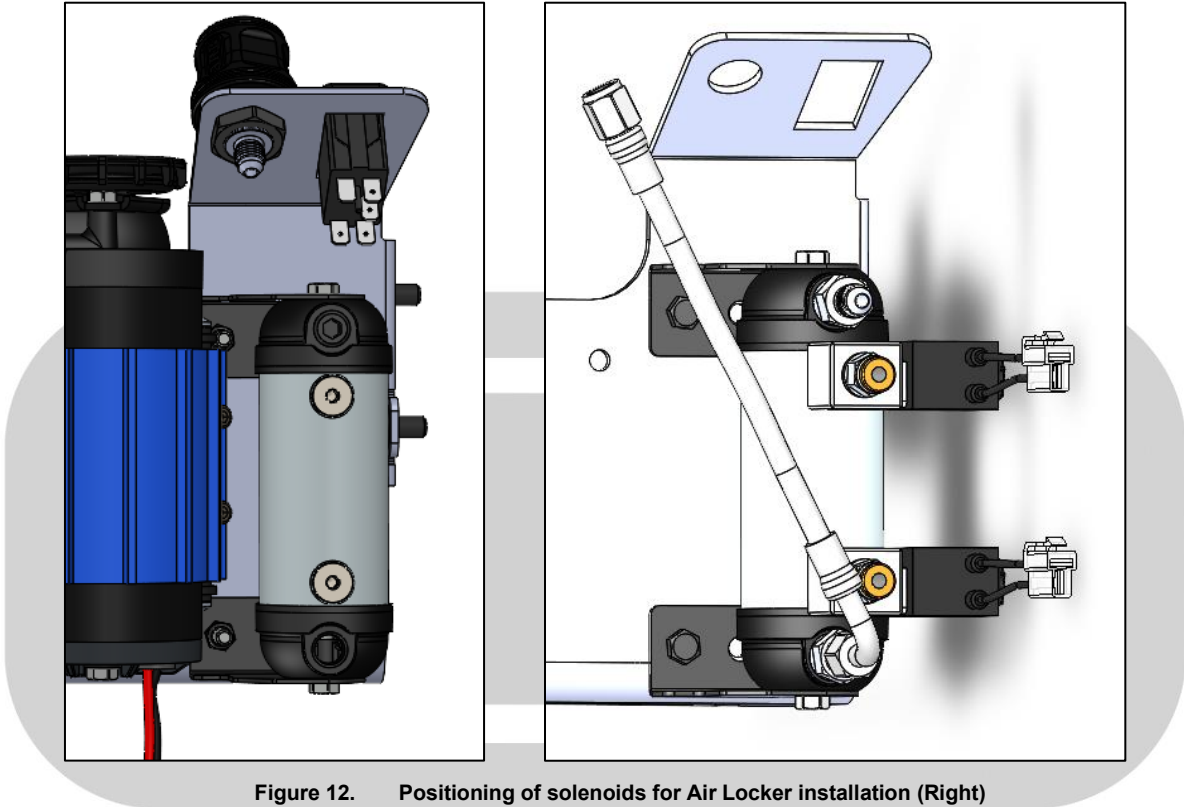

Figure 12. Positioning of solenoids for Air Locker installation (Right)
- ☐ Install the kit as illustrated in Figure 12 using the two M6 fasteners provided.